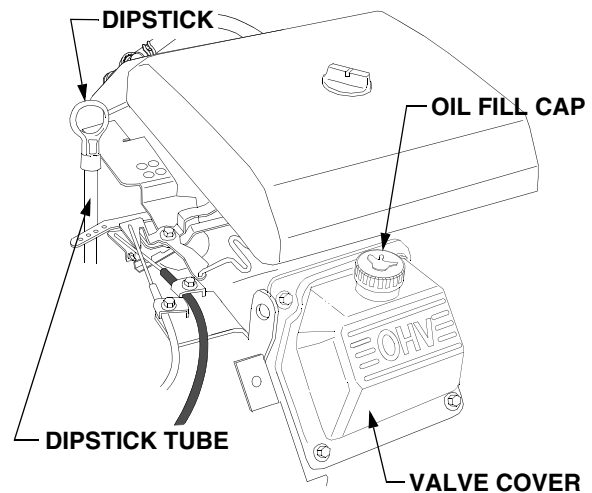

Figure 45
- Check the oil level only while the engine is stopped and the tractor is level. Clean the area around the oil level dipstick to prevent debris from entering the crankcase. See Figure 45.
- To check the oil level, withdraw the dipstick and wipe it clean; then insert the dipstick all the way into the tube before withdrawing it for a true reading. See Figure 45.
- Clean the area around the oil filler cap to prevent debris from entering the crankcase. Refer to Figure 45.